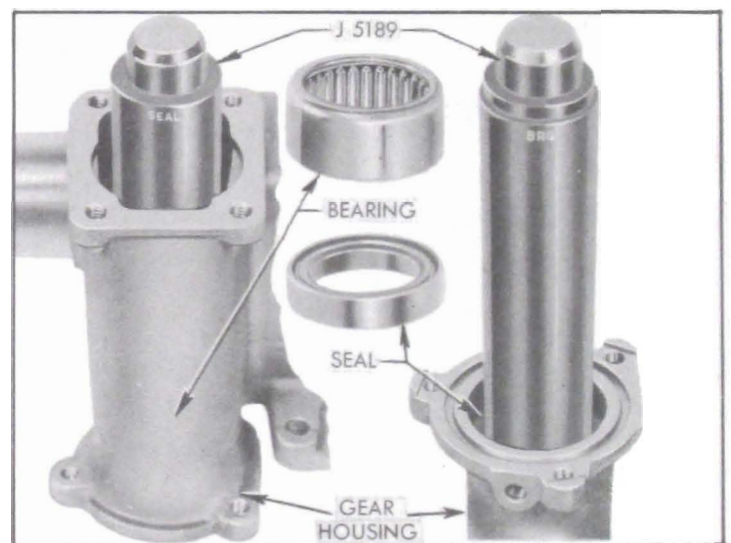

Figure 7-9—Installing Bearing and Seal in Gear Housing
7. Remove worm seal from gear housing with a punch and use Installer J 5189 to install a new seal *with spring side outward*. See figure 7-9.
8. If worm bearing in housing requires replacement, drive it out with a punch and use Installer J 5190 to install the new bearing. See figure 7-9.